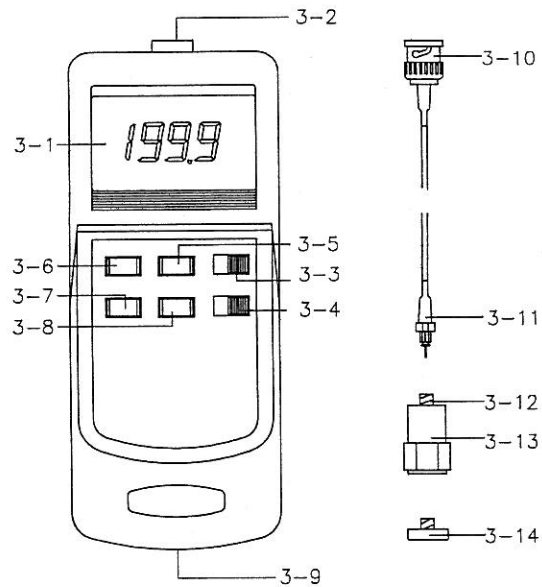
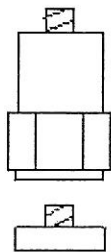
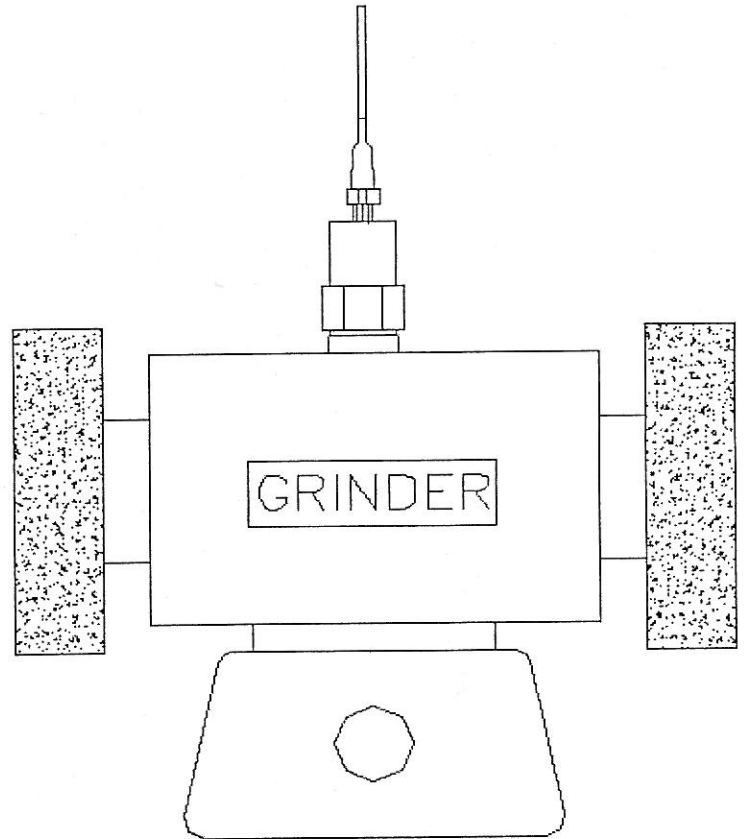

Fig. 1
Fig. 3
Fig. 4
- 1) Plug in the " BNC plug of cable " (3-10, Fig. 1) to the " BNC socket of meter " (3-2, Fig. 1).
- 2) Plug in the " Mini plug of cable " (3-11, Fig. 1) to the " Input socket of vibration sensor " (3-12, Fig. 1).
- 3) For the acceleration measurement, select the " Acceleration/Velocity switch " (3-4, Fig. 1) to the " ACC. " position.
For the velocity measurement, select the " Acceleration/Velocity switch " (3-4, Fig. 1) to the " VEL. " position.
- 4) Select the " RMS/PEAK switch " (3-3, Fig. 1) to the " RMS " position.
- 5) Power on the meter by pushing the " Power button " (3-6, Fig. 1) once.
8) If the surface material of measuring article is the ferrous material, connect " Vibration sensor " (3-13, Fig. 1) with the " Magnetic base " (3-14, Fig. 1), refer to Fig. 3, page 6. Put the whole unit (Vibration sensor & Magnetic base) to the surface of measuring article, refer to Fig. 4, page 7
Before the measurement if select the " RMS/PEAK switch " (3-3, Fig. 1) to the " PEAK " position.
During the measurement, push the " Data Hold button " (3-5, Fig. 1) will hold the measured value & the LCD will indicate " D.H." symbol.
* The DATA RECORD function displays the maximum, minimum and average readings. To start the DATA RECORD function, press the " RECORD Button " (3-7, Fig. 1) once. " REC " symbol will appear on the LCD display.
- (a) Push the " RECALL button " (3-8, Fig. 1) once, the " Max " symbol along with the maximum value will appear on the display.
During the measurement, push the " Record Button " (3-7, Fig. 1) to execute the memory record function.
- 2) Loose the screw from the battery cover, then open the " Battery Cover " (3-9, Fig. 1) away from the instrument and remove the battery.